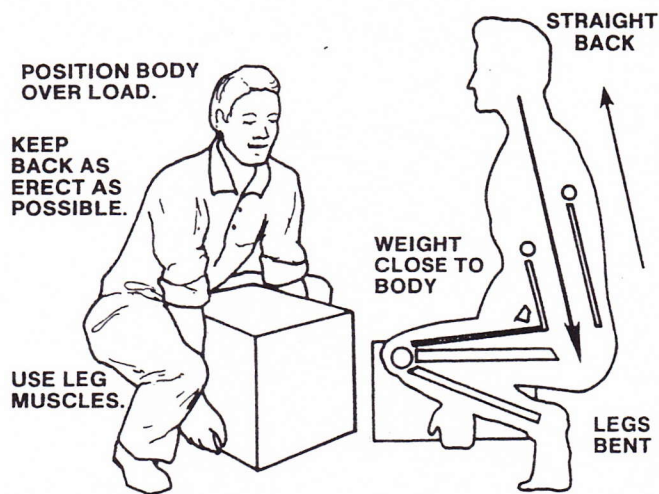

FIGURE 2-3 Use your leg muscles—never your back—when lifting any heavy load.
2. Keep your back and elbows as straight as possible. Bend your knees until your hands reach the best place to get a strong grip on the object (Figure 2-3).